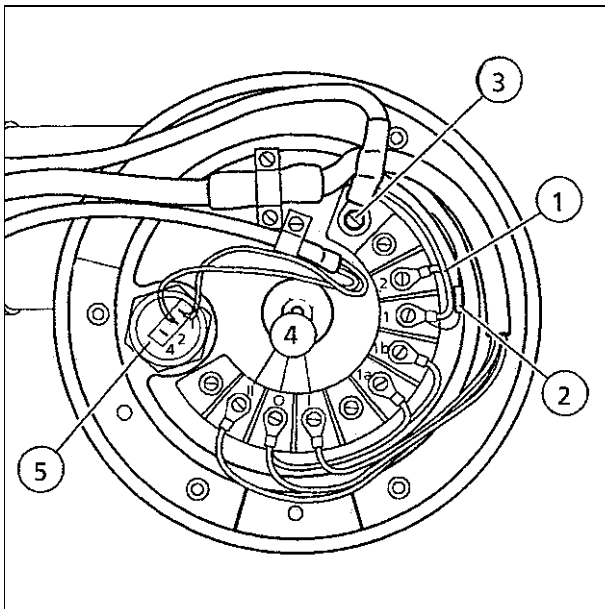

Fig. 1
### 2-phase stator (Fig.1)
**II, O, I** Connection for rotating anode cable (4/Fig.1), see stator connection.
Jumper 1-2-⊕ (1/Fig.1) is removed for LOADIX mode.
The measuring resistor (2/Fig.1) is installed in the LOADIX
- 1, 2, 4:** Connection of the oil pressure switch (5/Fig.1)
Connection for  $\geq 6 \text{ mm}^2$  ground wire (3/Fig.1) to the central ground wire connection on the high-voltage generator.
- Connect the stator cable to the terminal block of the x-ray tube assembly (Fig. 1) according to the provided starter (stator frequency 50/60 Hz or 150/180 Hz).